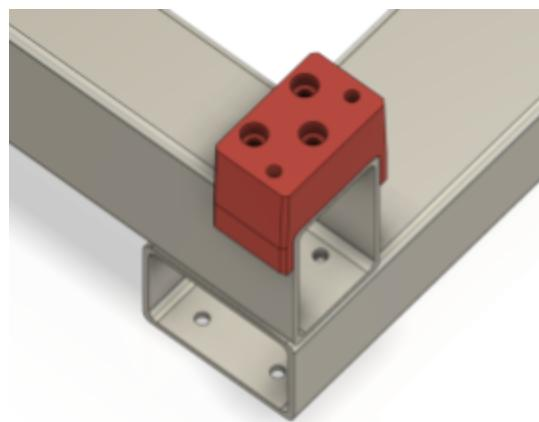

Figure 4.2
2. Ensure the BF12 mount is oriented correctly, as shown in Figure 4.2. The three counterbored holes make a triangle pattern pointing towards the back of the machine.